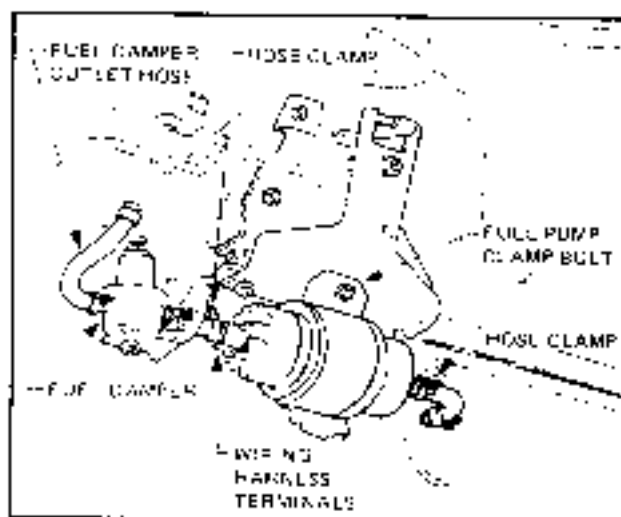

Figure 6C-88
1. Install fuel pressure gauge and hose (Part no. 5D28C16) to Schrader valve fitting at front of fuel rail (Fig. 6C-89). Hose has built-in valve core depressor.